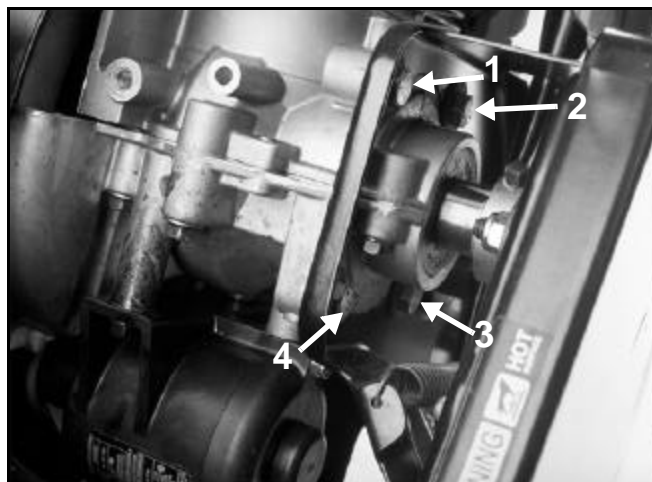

Figure 56 1854-03
11. Remove the 4 bolts or locknuts (depending on the model) around the crankshaft (Figure 56). These are the last fasteners retaining the engine. Lift the engine out of the chassis.